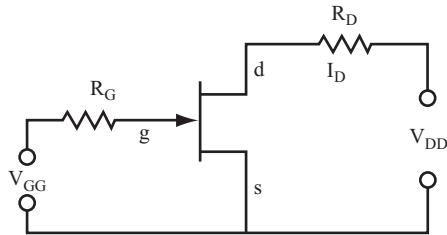

FIGURE 3.31
13. In the JFET common source circuit shown in Figure 3.31, add the correct polarities of the power supplies, and draw the current path taken by the drain current.